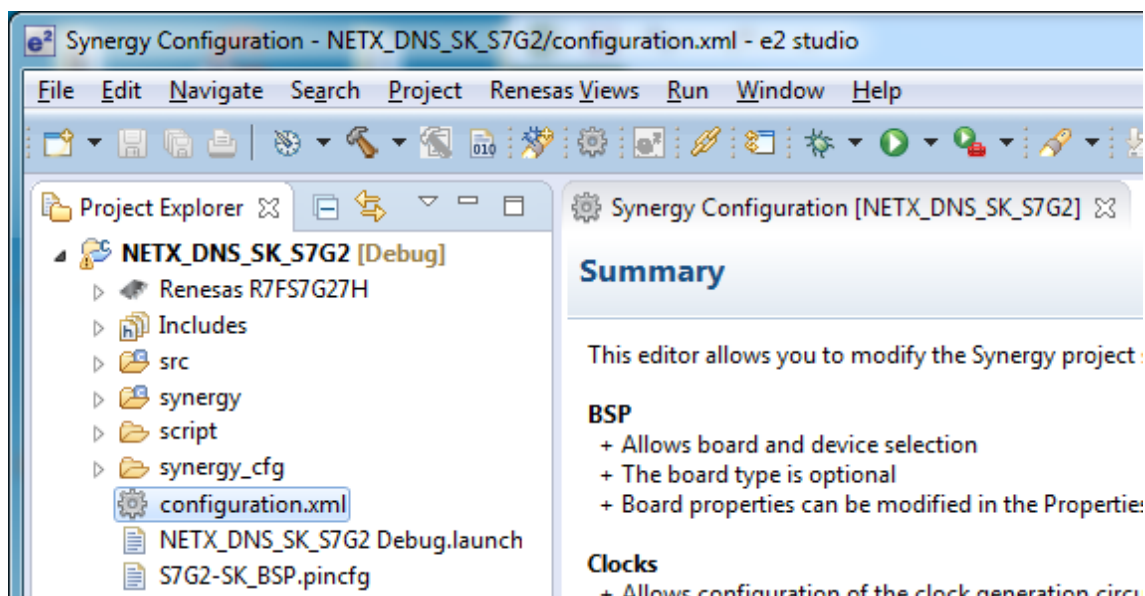

Figure 2.14 Synergy Configuration tabs
4. The project should resemble the folder structure seen in Figure 2.14.